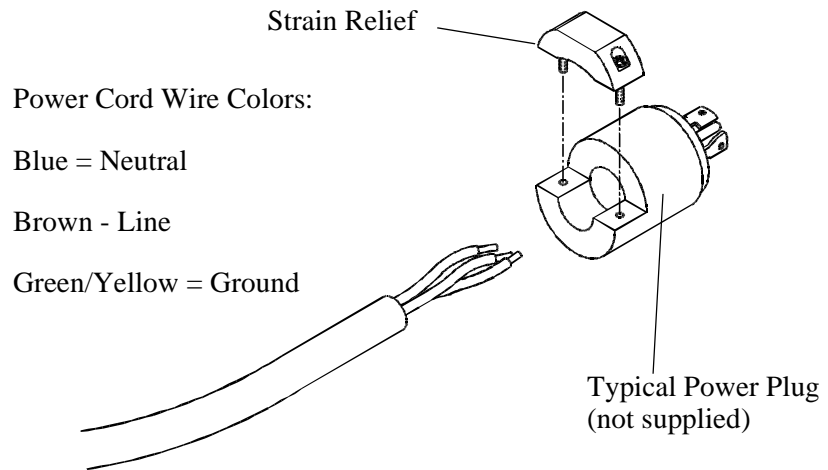

**Figure 2-2. Power Strip's Power Connector**
3. Locate the power strip's power connector (Figure 2-2). This is an IEC320/C19 connector.